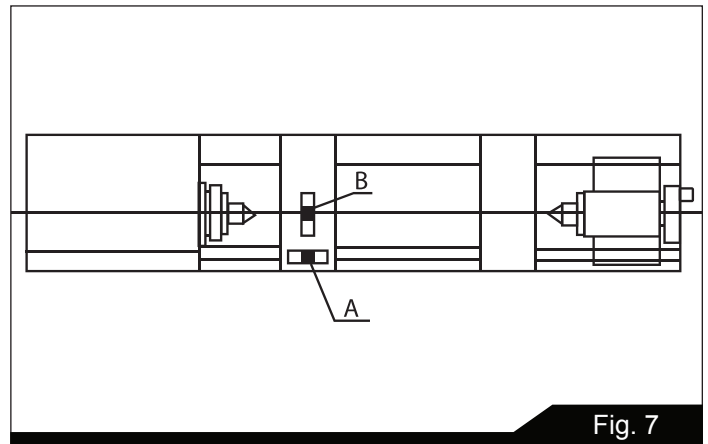

Fig. 7
9. Use a machinist's precision level on the bed ways both front to back and side to side, as shown in Figure 7. Take the reading in one direction every ten inches. Make sure the ways are clean and free of any debris before placing a level upon them.
10. Deviation over bed length (see Figure 7):